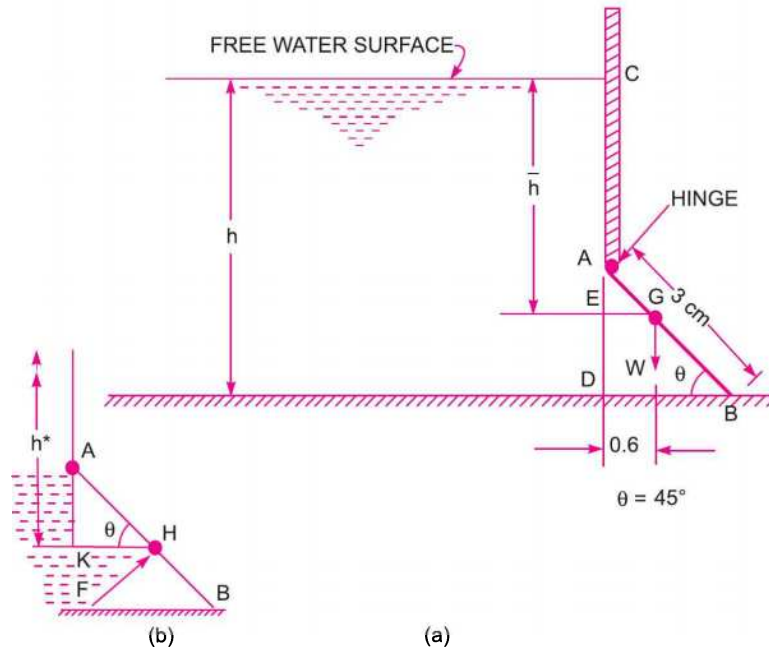

Fig. 3.25
**Problem 3.20** A rectangular sluice gate AB, 2 m wide and 3 m long is hinged at A as shown in Fig. 3.25. It is kept closed by a weight fixed to the gate. The total weight of the gate and weight fixed to the gate is 343350 N. Find the height of the water 'h' which will just cause the gate to open. The centre of gravity of the weight and gate is at G.
From Fig. 3.25 (a),
The total force  $F$  is acting at the centre of pressure as shown in Fig. 3.25 (b) at  $H$ . The depth of  $H$  from free surface is given by  $h^*$  which is equal to
$$\left[ \text{From } \triangle AKH, \text{ Fig. 3.25 (b) } AK = AH \sin \theta = AH \sin 45^\circ \therefore AH = \frac{AK}{\sin 45^\circ} \right]$$